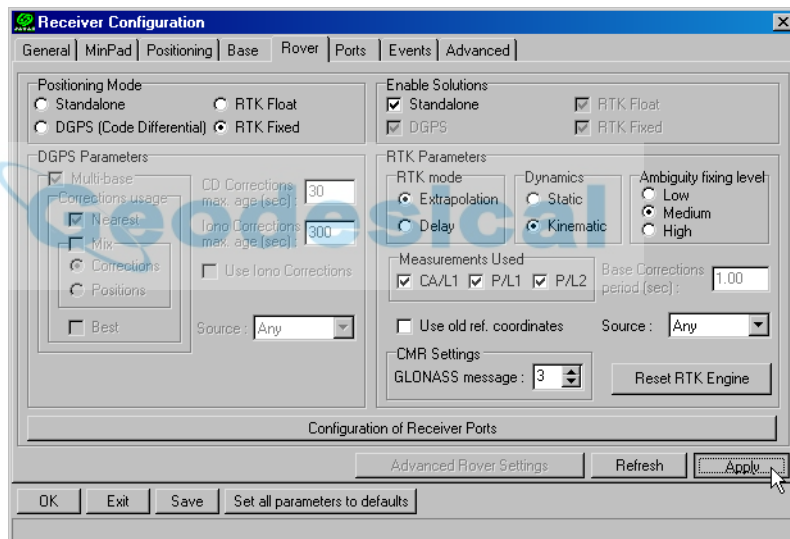

Figure 3-13. Rover Tab Configuration
5. Select the **Rover** tab and set the desired Positioning Mode (Figure 3-13).